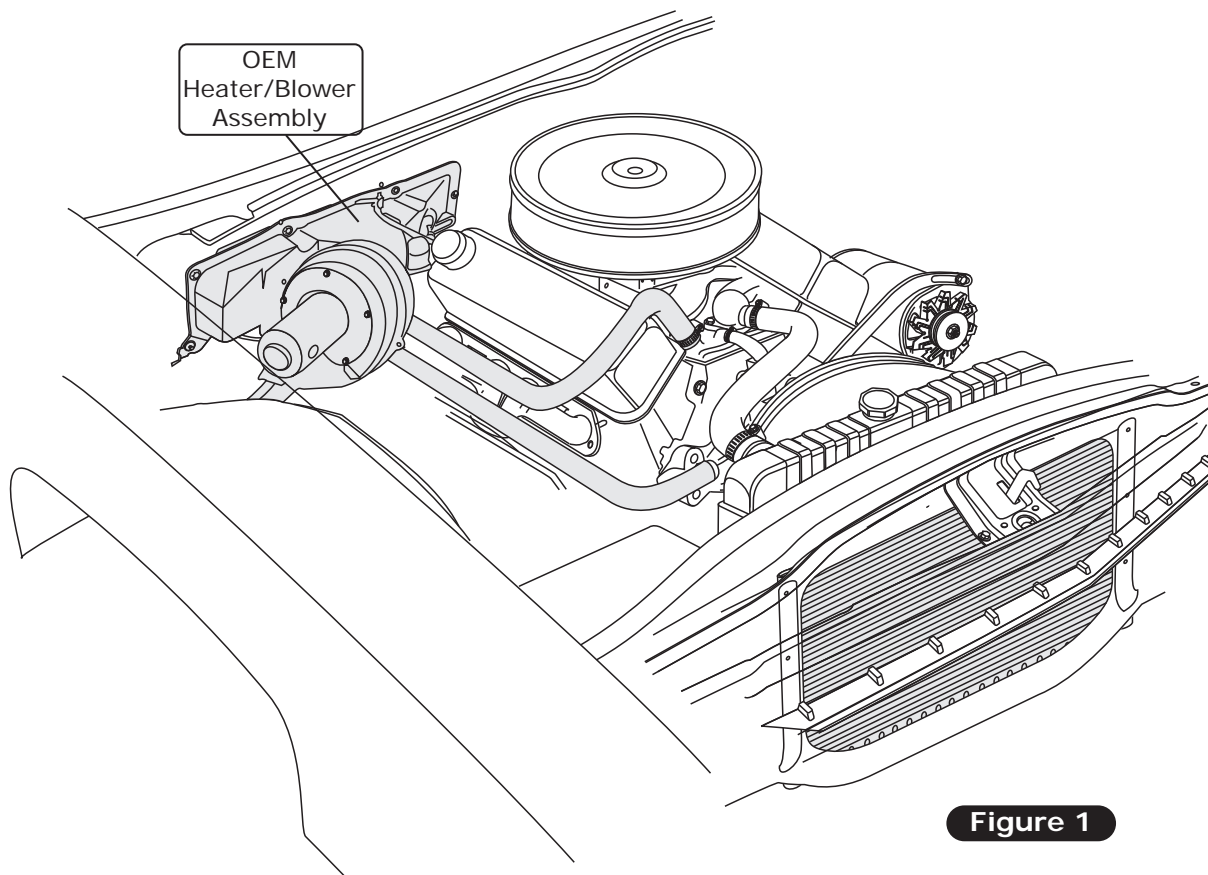

Figure 1
4. Remove the OEM blower assembly (discard) (See Figure 1, below).